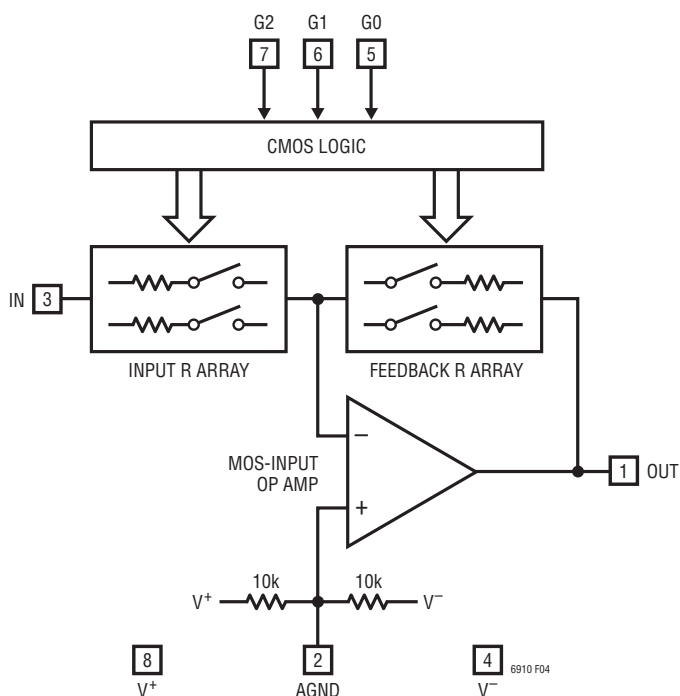
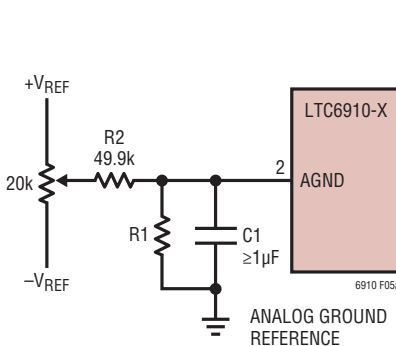

Figure 4. Block Diagram
Figure 5a. Offset Nulling
**AGND (Pin 2):** Analog Ground. The AGND pin is at the midpoint of an internal resistive voltage divider, developing a potential halfway between the  $V^+$  and  $V^-$  pins, with an equivalent series resistance to the pin of nominally 5k $\Omega$  (Figure 4). AGND is also the noninverting input of the internal op amp, which makes it the ground reference voltage for the IN and OUT pins. Because of this, very “clean” grounding is important, including an analog ground plane surrounding the package.
**IN (Pin 3):** Analog Input. The input signal to the amplifier in the LTC6910-X is the voltage difference between the IN and AGND pins. The IN pin connects internally to a digitally controlled resistance whose other end is a current summing point at the same potential as the AGND pin (Figure 4). At unity gain (digital input 001), the value of this input resistance is approximately 10k $\Omega$  and the IN voltage range is rail-to-rail ( $V^+$  to  $V^-$ ). At gain settings above unity (digital input 010 or higher), the input resistance falls. Also, the linear input voltage range falls in inverse proportion to gain. (The higher gains are designed to boost lower level signals with good noise performance.) Tables 1, 2, and 3 summarize this behavior. In the “zero” gain state (digital input 000), analog switches disconnect the IN pin internally and this pin presents a very high
The LTC6910 family are small outline, wideband inverting DC amplifiers whose voltage gain is digitally programmable. Each delivers a choice of eight voltage gains, controlled by the 3-bit digital inputs to the G pins, which accept CMOS logic levels. The gain code is always monotonic; an increase in the 3-bit binary number (G2 G1 G0) causes an increase in the gain. Table 1, Table 2 and Table 3 list the nominal voltage gains for LTC6910-1, LTC6910-2 and LTC6910-3 respectively. Gain control within each amplifier occurs by switching resistors from a matched array in or out of a closed-loop op amp circuit using MOS analog switches (Figure 4). Bandwidth depends on gain setting. Curves in the Typical Performance Characteristics section show measured frequency responses.
Settling time in the CMOS gain-control logic is typically several nanoseconds and faster than the analog signal path. When amplifier gain changes, the limiting timing is analog, not digital, because the effects of digital input changes are observed only through the analog output (Figure 4). The LTC6910-X’s logic is static (not latched) and therefore lacks bus timing requirements. However, as with any programmable-gain amplifier, each gain change causes an output transient as the amplifier’s output
The electrical tables list DC offset (error) voltage at the inputs of the internal op-amp in Figure 4,  $V_{OS(OA)}$ , which is the source of DC offsets in the LTC6910-X. The tables also show the resulting, gain dependent offset voltage referred to the IN pin,  $V_{OS(IN)}$ . These two measures are related through the feedback/input resistor ratio, which equals the nominal gain-magnitude setting, G:
Offset voltages at any gain setting can be inferred from this relationship. For example, an internal offset  $V_{OS(OA)}$  of 1mV will appear referred to the IN pin as 2mV at a gain setting G of 1, or 1.5mV at a gain setting of 2. At high gains,  $V_{OS(IN)}$  approaches  $V_{OS(OA)}$ . (Offset voltage can be of either polarity; it is a statistical parameter centered on zero.) The MOS input circuitry of the internal op amp in Figure 4 draws negligible input currents (unlike some op amps), so only  $V_{OS(OA)}$  and G affect the overall amplifier’s offset.
Because internal op amp offset voltage  $V_{OS(OA)}$  is gain independent as noted above, offset trimming can be readily added at the AGND pin, which drives the noninverting input of the internal op amp. Such a trim shifts the AGND voltage slightly from the system's analog ground reference, where AGND would otherwise connect directly. This is convenient when a low resistance analog ground potential or analog ground reference exists, for the return of a voltage divider as in Figure 5a. When adjusted for zero DC output voltage when the LTC6910-X has zero DC input voltage, this DC nulling will hold at other gain settings also.
Figure 5a shows the basic arrangement for dual-supply applications. A voltage divider (R1 and R2) scales external reference voltages  $+V_{REF}$  and  $-V_{REF}$  to a range equaling or slightly exceeding the approximately  $\pm 10\text{mV}$  op amp offset-voltage range. Resistor R1 is chosen to drop the  $\pm 10\text{mV}$  maximum trim voltage when the potentiometer is set to either end. Thus if  $V_{REF}$  is 5V, R1 should be about  $100\Omega$ . Note also that the two internal 10k resistors in Figure 4 tend to bias AGND toward the mid-point of  $V^+$  and  $V^-$ . The external voltage divider will swamp this effect if R1 is much less than  $5\text{k}\Omega$ . When considering the effect of the internal 10k resistors, note that they form a Thévenin equivalent of  $5\text{k}$  in series with an open-circuit voltage at the halfway potential  $(V^+ + V^-)/2$ . (Although
With this trim technique in place, the remaining DC offset sources are drifts with temperature (typically  $6\mu\text{V}/^\circ\text{C}$  referred to  $V_{OS(OA)}$ ), shifts in the LTC6910-X's supply voltage divided by the PSRR factors, supply voltage shifts coupling through the two 10k internal resistors of Figure 4, and of course any shifts in the reference voltages that supply  $+V_{REF}$  and  $-V_{REF}$  in Figure 5a.
At a gain setting of 10V/V in an LTC6910-1 (digital input 100) and a 250ksps sampling rate in the LTC1864, a 10kHz input signal at 60% of full scale shows a THD of  $-87\text{dB}$  at the digital output of the ADC. 100kHz input signals under the same conditions produce THD values around  $-75\text{dB}$ . Noise effects (both random and quantization) in the ADC are divided by the gain of the amplifier when referred to  $V_{IN}$  in Figure 4. Because of this, the circuit can acquire a signal that is 40dB down from full scale of 5VP-P with an SNR of over 70dB. Such performance from an ADC alone ( $70 + 40 = 110\text{dB}$  of useful dynamic range at 250ksps), if available, would be far more expensive.